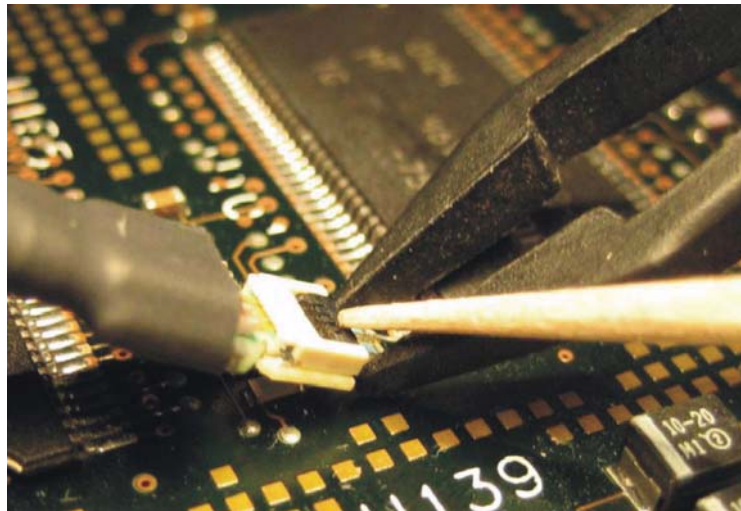

Figure 2-39 Use non-conductive tool to close the latch
- 6 Connect ZIF probe head to ZIF tip desired for measurement. When you need to make a measurement at a point where you've previously installed a ZIF tip, insure the latch on the ZIF tip is open, insert the contacts on the probe head into the ZIF socket, and then close the ZIF latch with a non-conductive tool. Depending on the positioning of the ZIF tip, you may need to support the body of the ZIF tip while closing the latch. This can be done by tweezers or other suitable tool by grabbing the PC board at the tip while the latch is being closed. If the circuit is live and there is concern about shorting anything out, use plastic or non-conductive tweezers. See Figure 2-39.